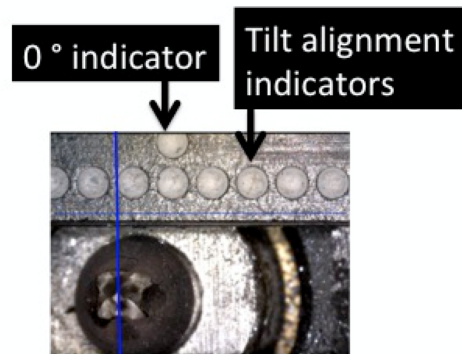

Figure 18 Diamond scriber tip and tilt indicators
24. Default settings. The tool ships with the default settings as shown in Figure 18. This setting can be used for crystalline materials.